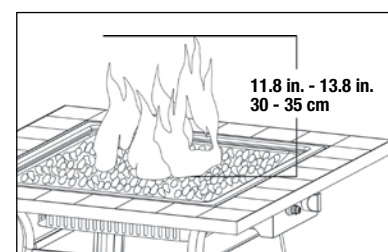

Figure 5
16. After lighting, observe the burner flame. Make sure all burner ports are lit and flame height matches illustration (Figure 5).
4. Visually check the burner flames to make sure your outdoor fireplace is working properly (Figure 5).